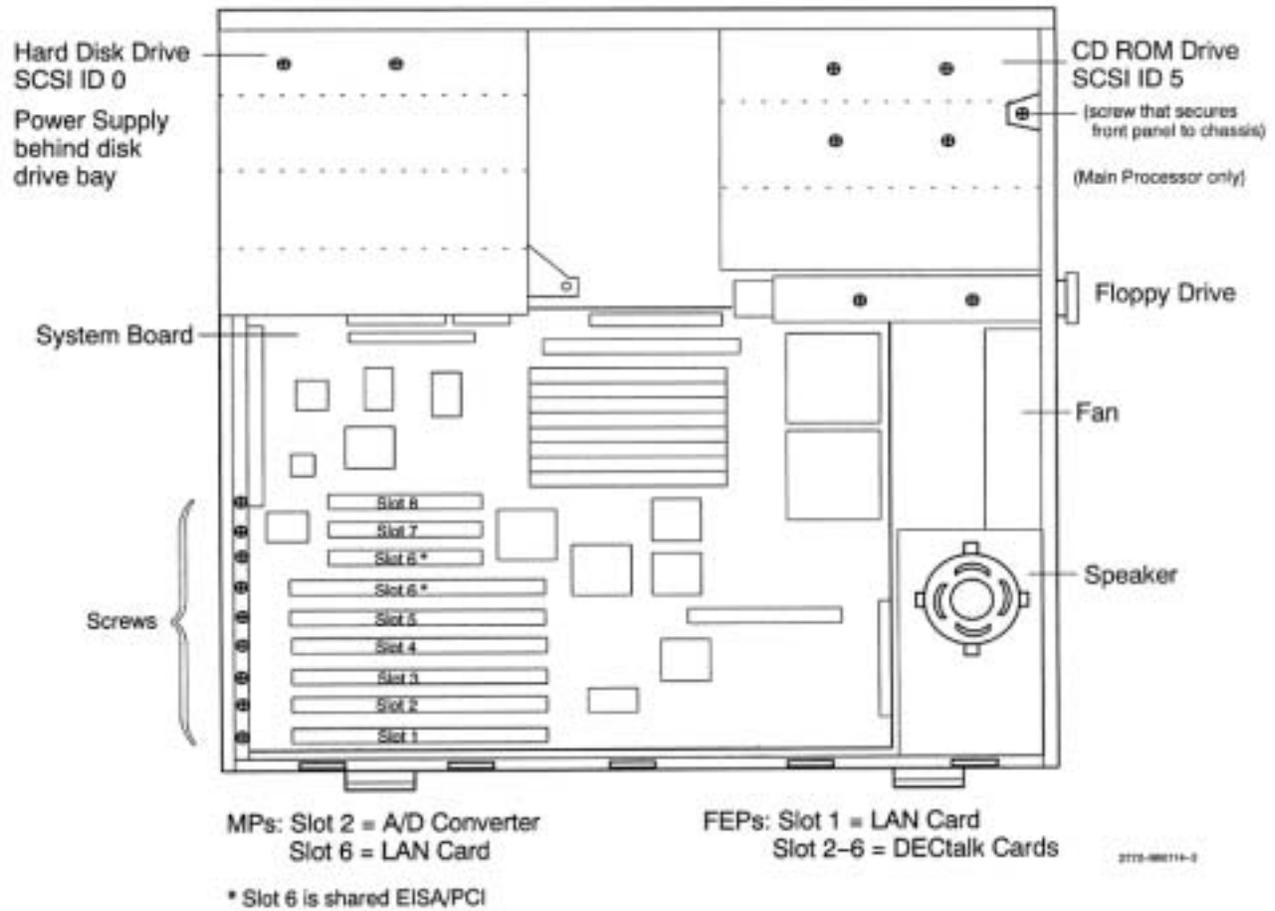

Figure A-13. Main Processors and Front-End Processors (side panel removed)
- Figure A-13.** Main Processors and Front-End Processors (side panel removed)